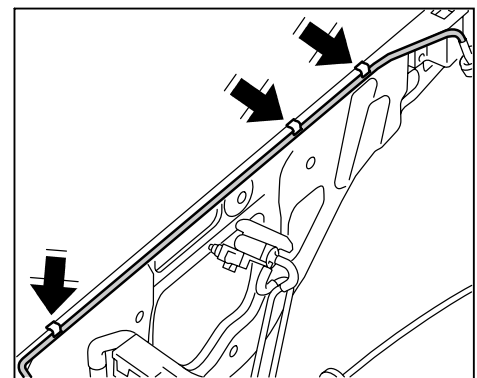

Figure 22
- 6.4.5 Fit the vacuum line into the holder ⇒ *Figure 22 -arrows-*.